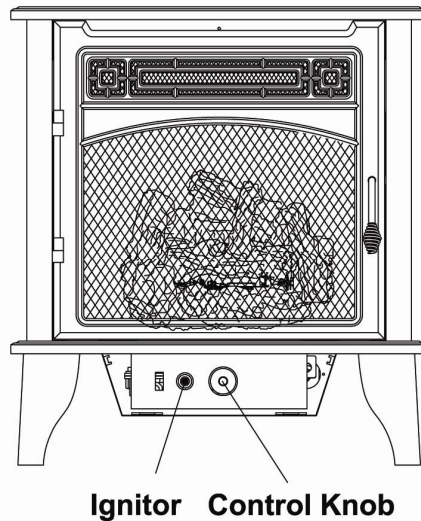

Figure 16A Control Knob Position
3. Turn control knob clockwise to the OFF position, see Figure 16A.
4. Wait five (5) minutes to clear out any gas. Then smell for gas around heater and near floor. If you smell gas, **STOP!** Follow "B" in the safety information on Warnings plate. If you don't smell gas, go to the next step.
5. Turn control knob counterclockwise to the PILOT position. Keep control knob pressed in for five (5) seconds. **Note:** You may be running this heater for the first time after hooking up to gas supply. If so, the control knob may need to be pressed in for 30 seconds. This will allow air to bleed from the gas system. If control knob does not pop up when released, contact a qualified service person or gas supplier for repairs.
7. Keep control knob pressed in for 30 seconds after lighting pilot. After 30 seconds, release control knob. **Note:** If pilot goes out, repeat steps 3 through 7. This heater has a safety interlock system. Wait one (1) minute before lighting pilot again.